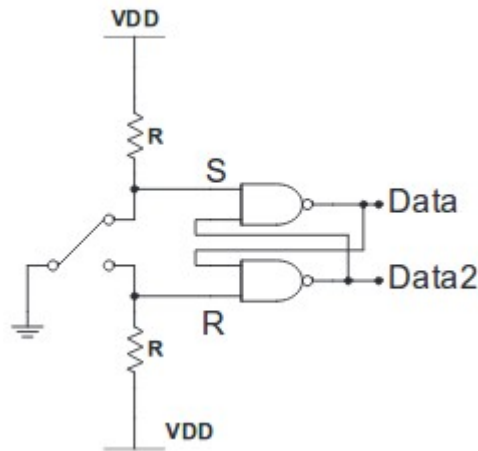
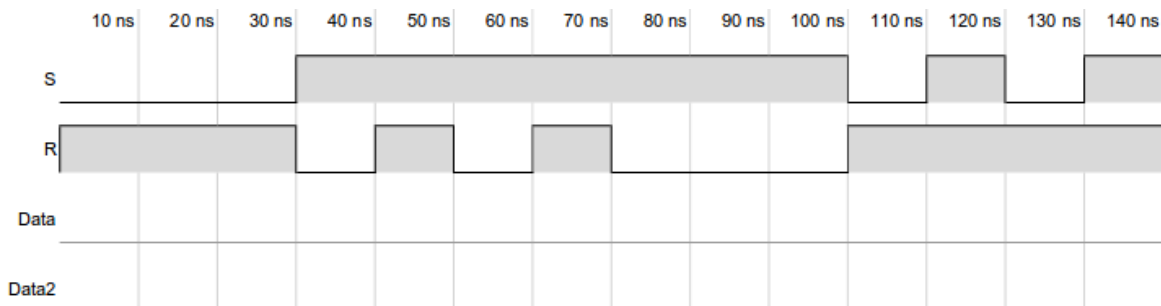

Figure 1: NAND Debounced Single-Pole Double-Throw (SPDT) Switch Circuit
Figure 2: SR Latch Sample Input for the Prelab
The waveform shown in Figure 2 shows the values on S and R when the switch of Figure 1 is moved from the UP position to the Down position, then moved back to the UP position. Complete the timing diagram to show the expected values of Data (top NAND gate takes S as an input) and Data2 (bottom NAND gate takes R as an input) outputs.
2.2.1. Build the circuit shown in Figure 1. Use 10k resistors. Use a wire to simulate your switch.